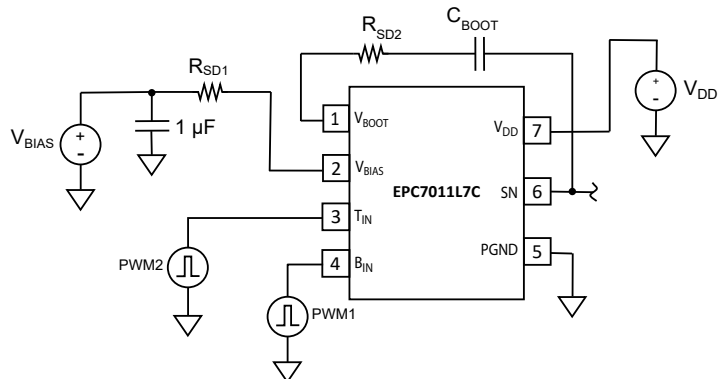

Figure 3. External Slow-Down Resistor Connections
The EPC7011L7C is designed to be a high-speed power driver. As such it has extremely fast switching node (SN) rise and fall times by design. Fast rise and fall times can and will result in unwanted voltage spikes at the V_{DD} and PGND pins due to any parasitic layout inductance ($V_{SPIKE} = L_{Par} \cdot di/dt$). If as a result of the optimized PCB layout that these spikes cannot be reduced to an acceptable level, it is recommended that two resistors be added to the circuit to decrease the slew rates of the low-and high side gate drive signals, which in turn decreases the slew rates of the switching node rise and fall times. These resistors, R_{SD1} and R_{SD2} are shown in Figure 3.